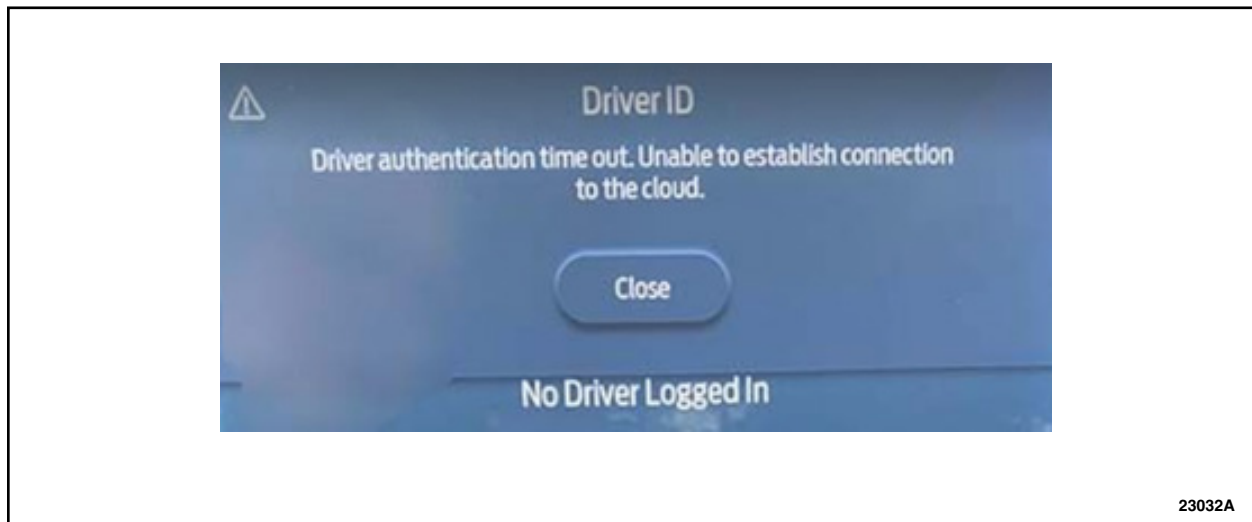

FIGURE 1
1. Check for the vehicles ability to connect to the cloud. Did the message shown in Figure 1 appear?